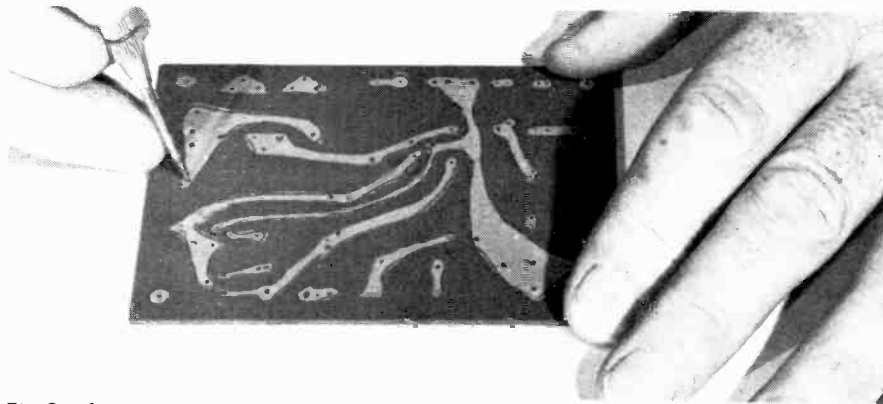

Fig. 9. After etching away all unwanted copper, mark hole positions with a scribe.
13) With a scribe, mark the positions of the holes for component leads by pressing through the film into the copper (Fig. 9). The pencil dots already made (see introduction 4 above) give the positions.